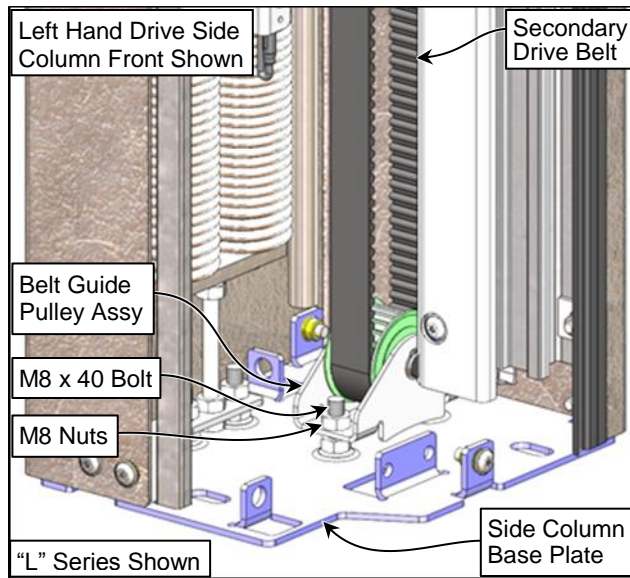

Figure 87
7. "L" Series: Release the tension from each secondary drive belt by removing the belt guide pulley assembly from its front & rear mounting posts. The pulley assembly is held in place by a nut threaded onto each post. The trolley near the top can also be used to reduce the tension on the secondary drive belt for both the L & S size doors. (See Figure 87)